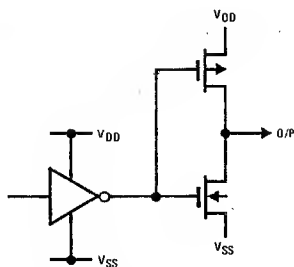

FIGURE 3. CMOS Output (TV "ON", Auto "ON", Indicator)
**TV "ON" Output:** Figure 3 illustrates the CMOS inverter output circuit used.
Osc. Input Levels, <math>\phi 1, \phi 2</math> (Figure 3)